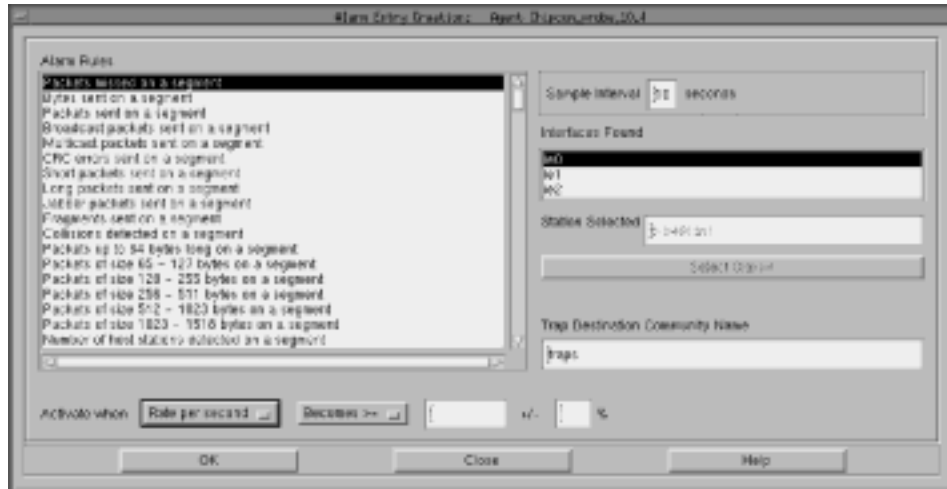

Figure 45. Alarm Entry Creation Dialog Box
3. To add a new entry to the Alarms list, click **Add** to open the Alarm Entry Creation dialog box, shown in Figure 45 on page 95.